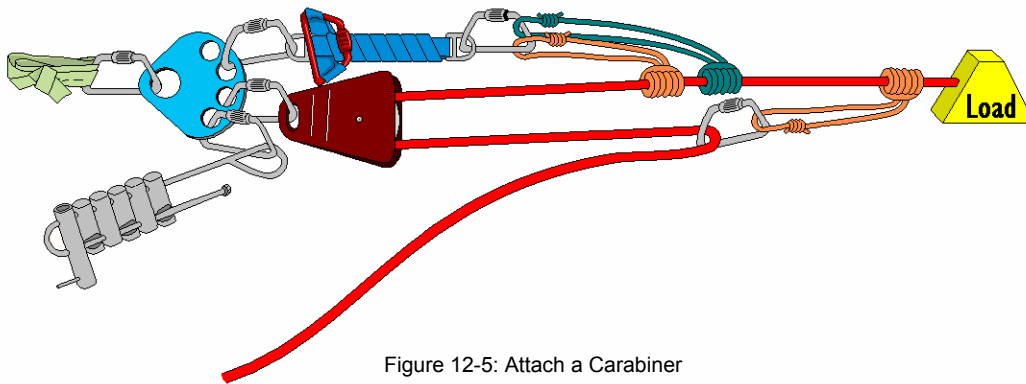

Figure 12-5: Attach a Carabiner
5. Attach a carabiner through the prusik hitch and clip the belay/safety line into the carabiner. (Figure 12-5)